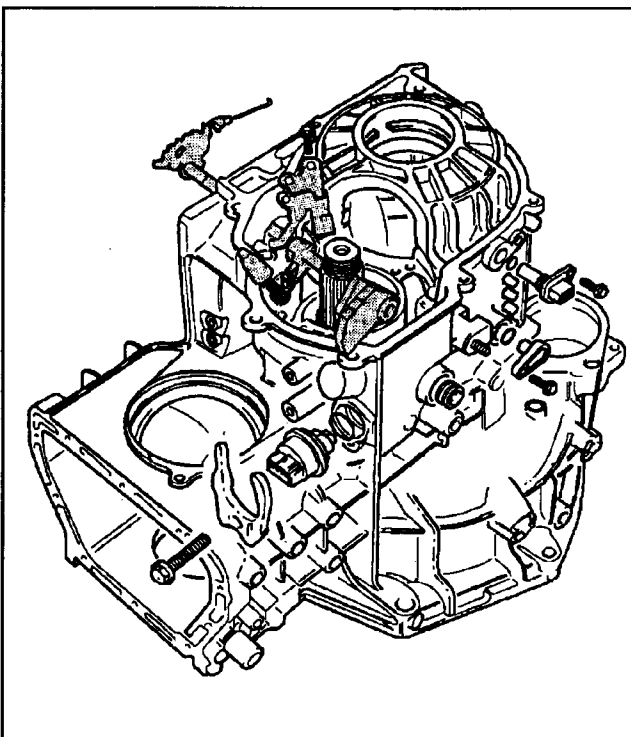

Figure 89
4. Remove the two 10mm bolts for the support plate, and remove the support plate and the park rod guide plate (See Figure 89).